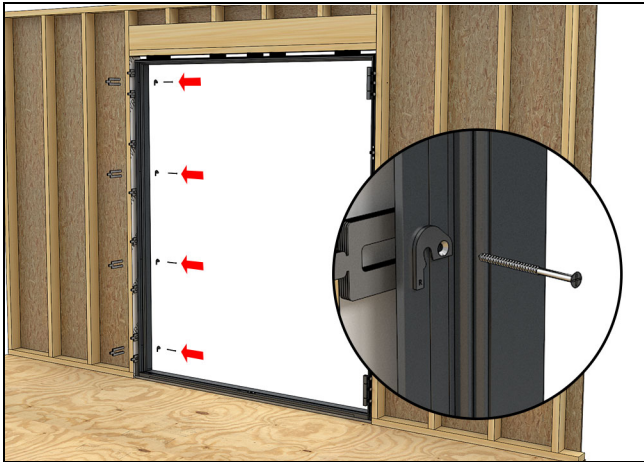
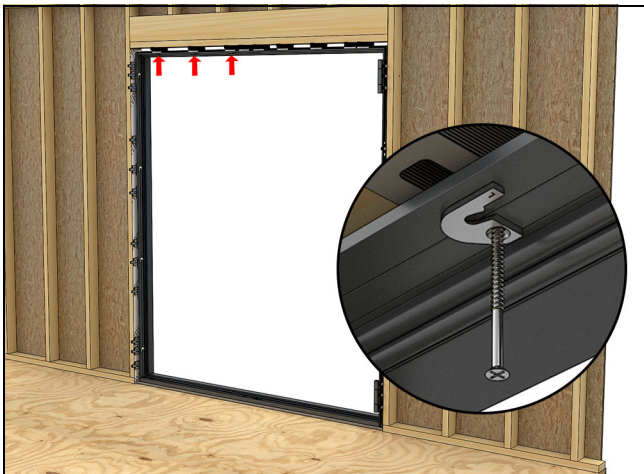

Figure 61 Right hand brackets shown.
Figure 62 Stationary brackets at the head jamb are left handed
23. On O or OX/XO install the stationary brackets on the frame. Use #10 x 3" screws included. Brackets handed as viewed from the exterior. All brackets on the head jamb are left handed. See Figure 61 and Figure 62.